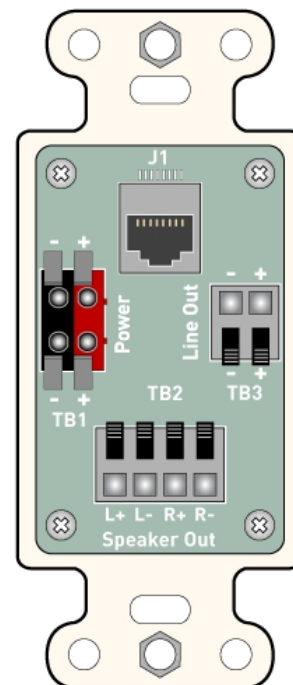

Figure 2
You'll have no problem telling that this is a lyriQ™ High Performance Keypad Volume Control from the rear of the keypad (see **Figure 2**). The first thing you'll notice is that the Category 5 connection is now an RJ45 jack (J1) rather than a 110 style punch down strip. The TB2 speaker output connections (left and right, plus and minus) are spring loaded and designed to support up to 14 gauge wire. The TB3 Line Out connections (plus and minus) are also spring loaded and designed to support up to 14 gauge wire. This mono-summed output is designed for powered sub-woofers and as such is filtered through an 80Hz low pass filter. The other terminal block on the rear (TB1) is used for powering the keypad. Up to 14 gauge speaker wire may be used for this purpose, and this speaker wire (two conductor or four conductor) is run from a power distribution module (P/N AU1001) in the enclosure to the volume control. We recommend 16/4 speaker wire, since it is available paired with Category 5 from a variety of sources. Again, the TB1 connections are spring loaded (plus and minus) with the two plus connections on the red portion of TB1 and the two minus connections on the black portion of TB1. For ease of installation, connect the red wire and white wire to the red (plus) portion of TB1 and the black and green wire to the black (minus) portion of TB1.
- 1) Connect the volume control by terminating the pre-wired Category 5 cable from the enclosure with an RJ45 plug, following the T568A wiring standard and insert this plug into jack J1 (see **Figure 2**).
- 2) For the power connection (TB1) strip 3/8" of insulation from each of the four conductors and insert the red and white wires into the red (plus) portion of TB1. Insert the stripped black and green wires into the black (minus) portion of TB1 (see **Figure 2**).
- 3) Speaker/Line Out/Sub-Woofer connections (see **Figure 2**):